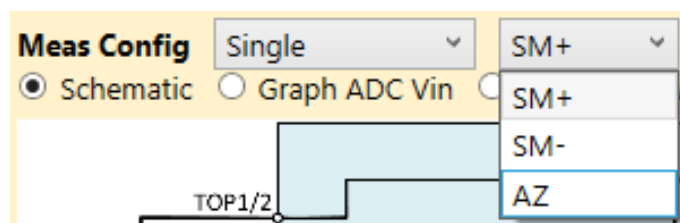

Figure 70. Meas Config: Single
- Single: single measurement (see Figure 70)